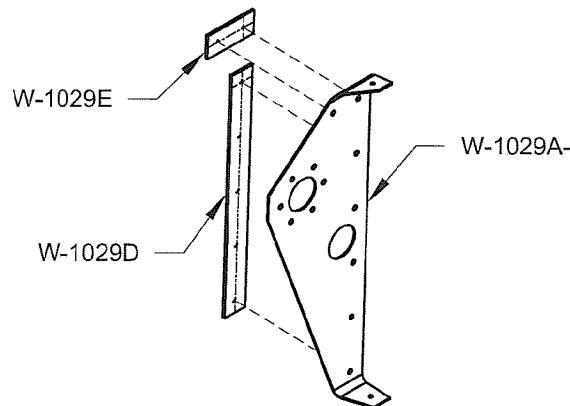

FIGURE 4: MATCH-DRILLING THE SPACERS
Step 5: Clamp W-1029A-L Torque Tube Support Bracket, W-1029D Spacer and W-1029E Spacer together with the centerlines drawn in steps 2 and 3 aligned with the holes in the support bracket as shown in Figure 4. Match-Drill the spacers #30 using the torque tube support bracket as a drill guide.